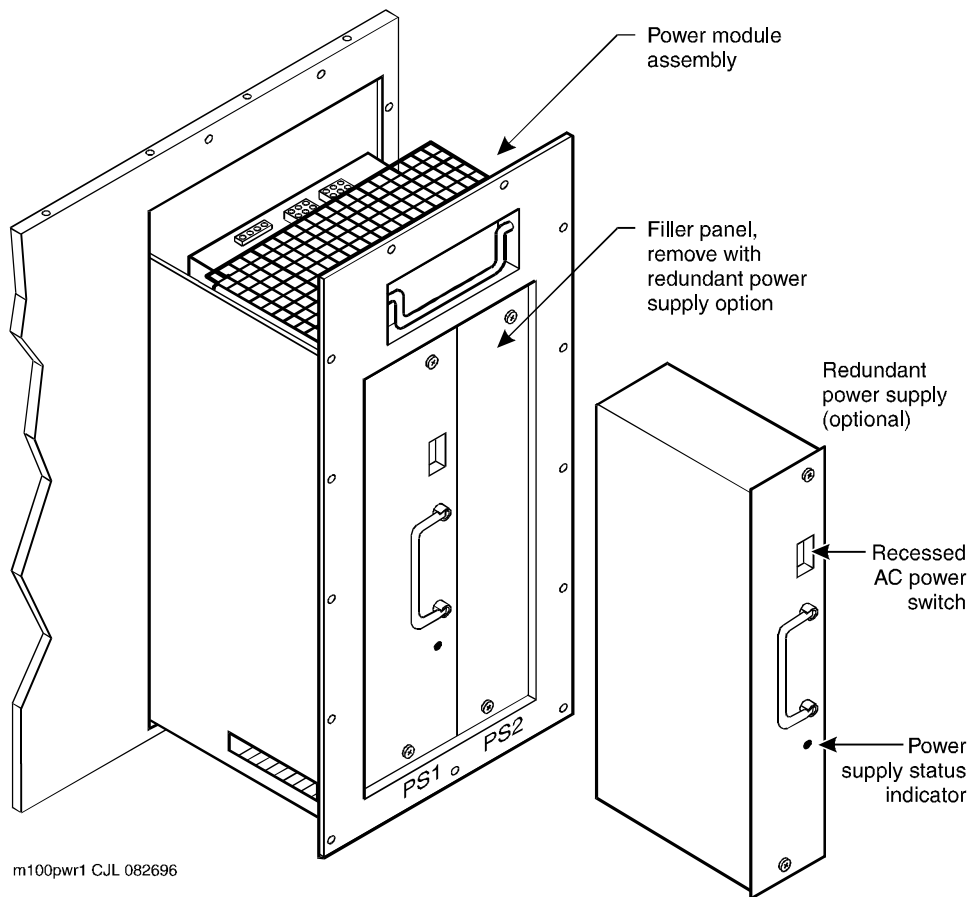

Figure A-4. Power Module Assembly with Redundant Power Supply Capability
4. Place the power switch on the power supply in the off position (Figure A-4).